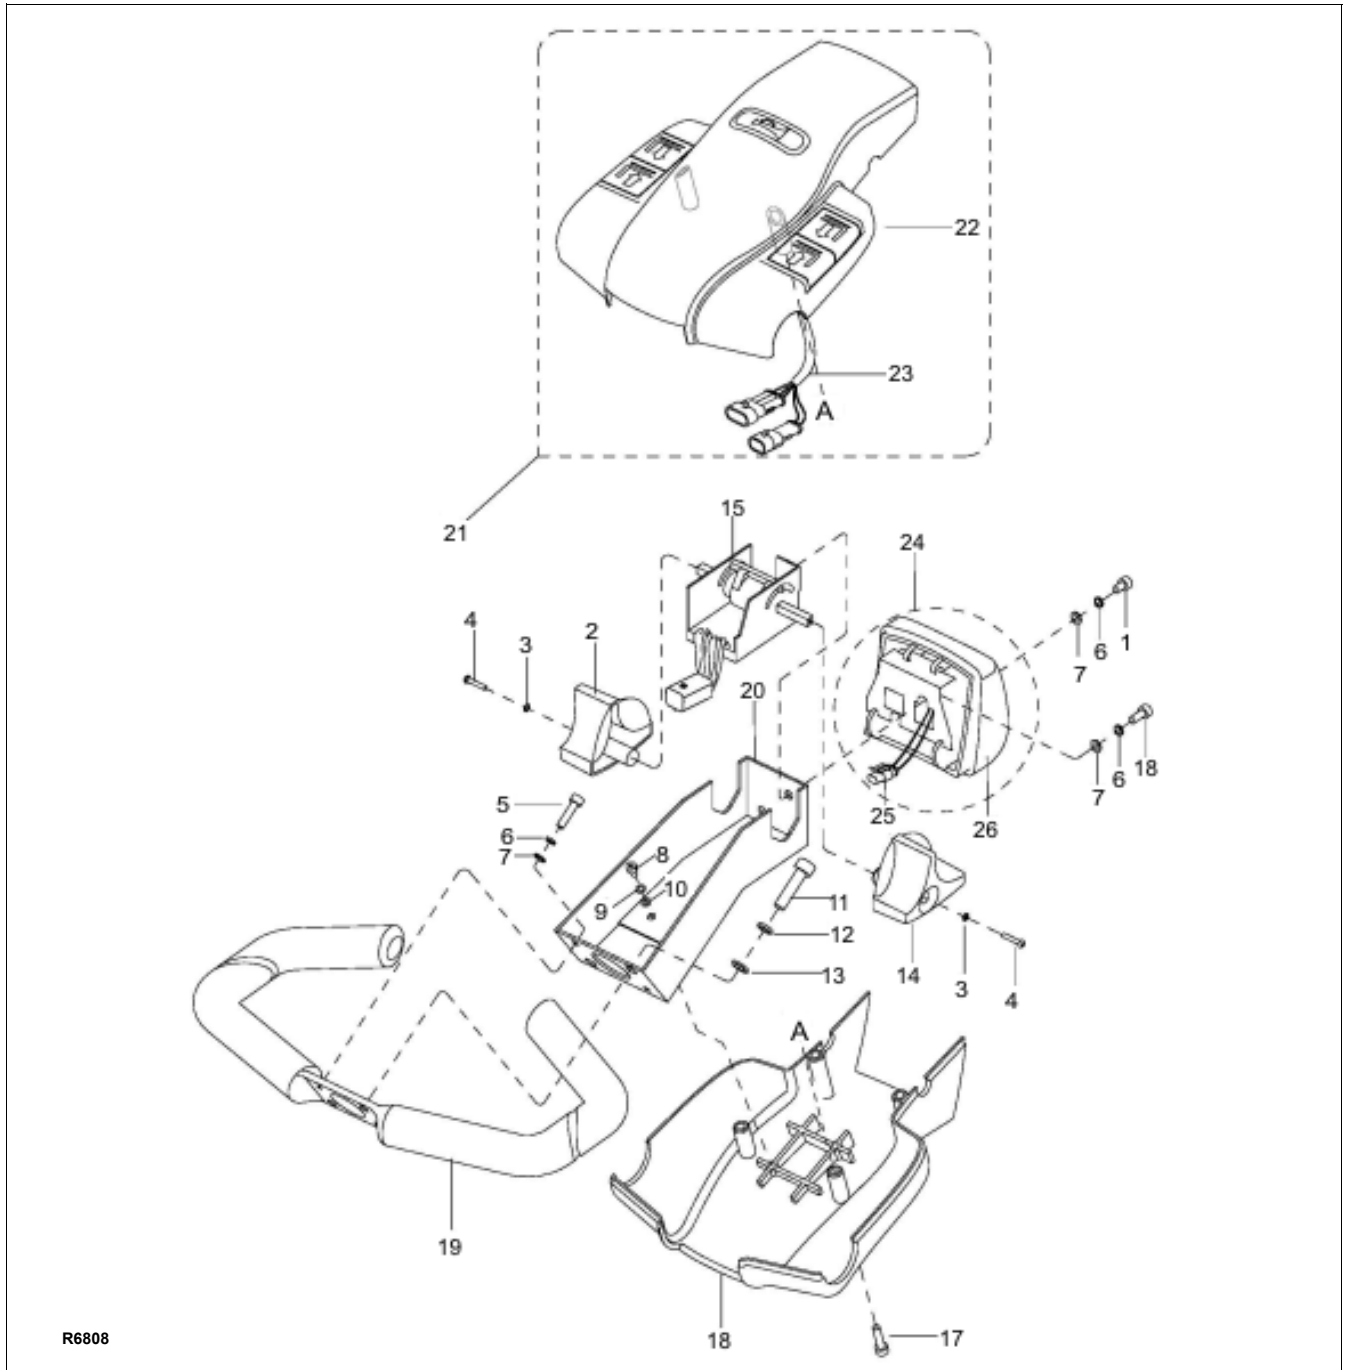
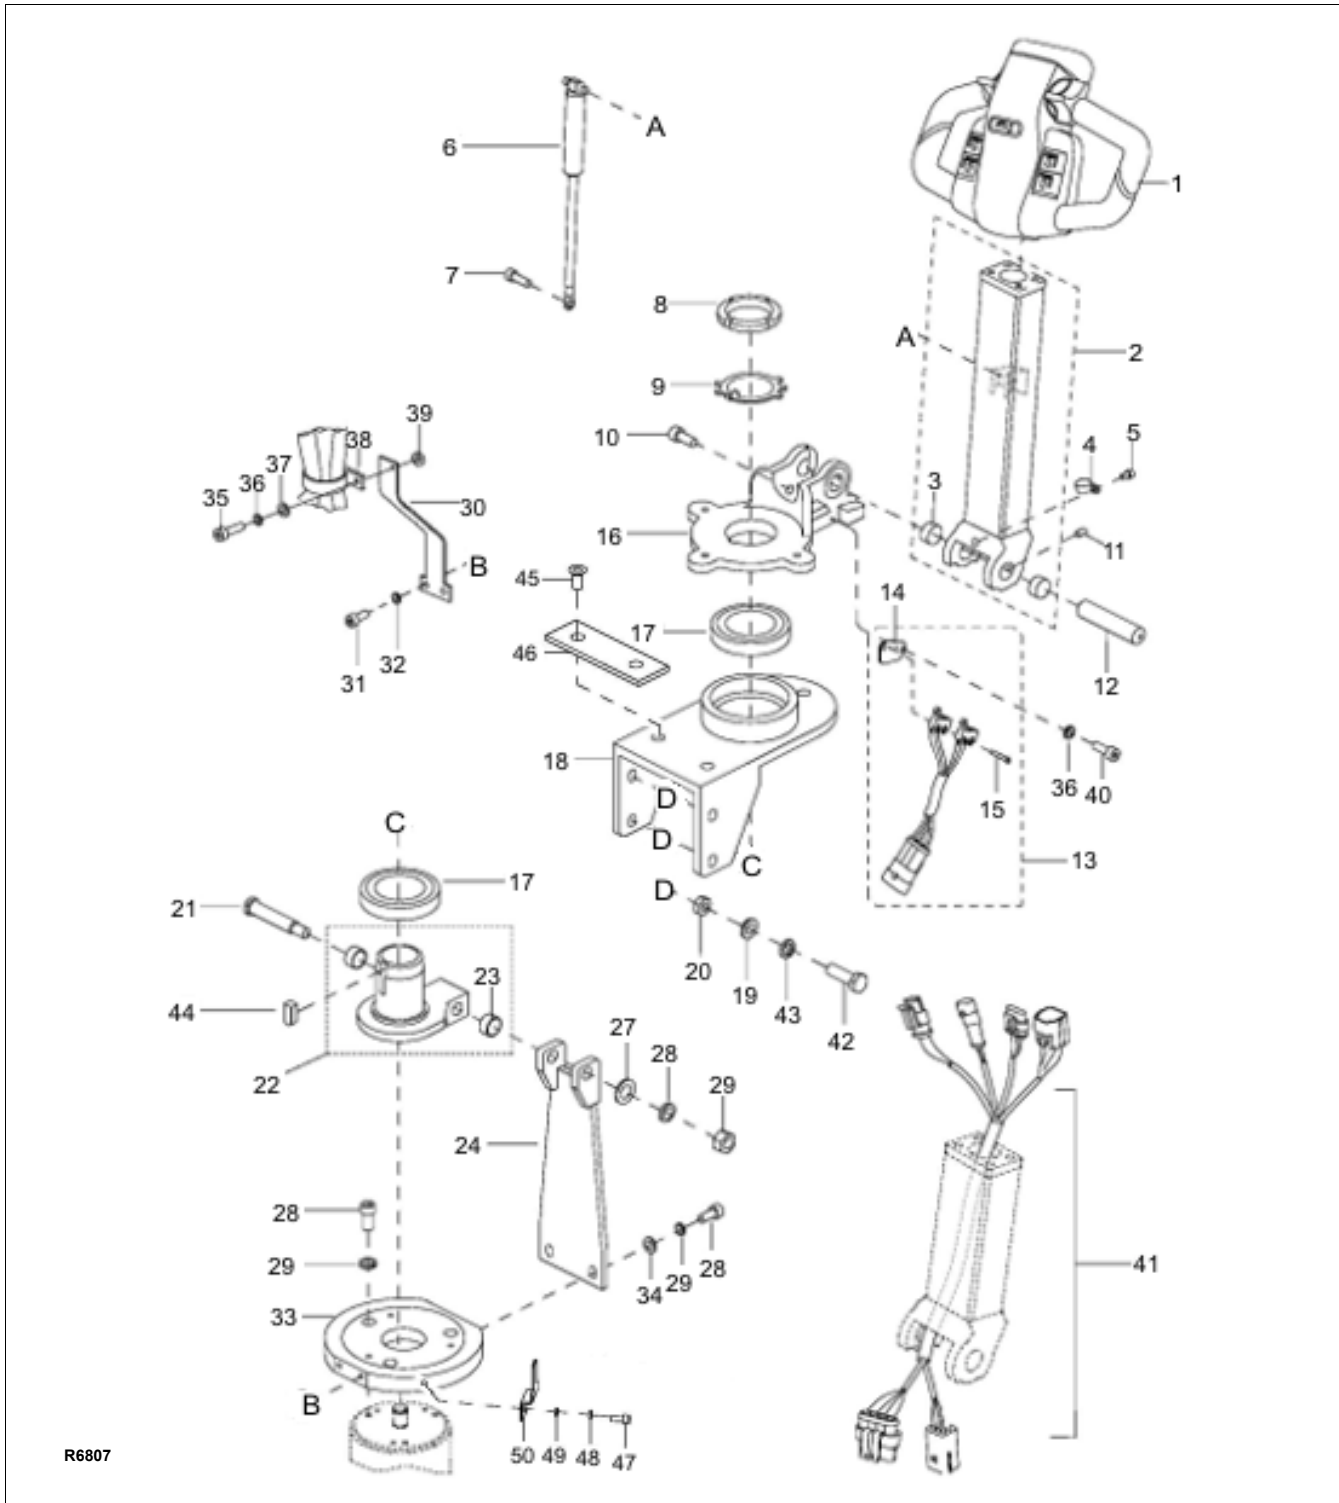
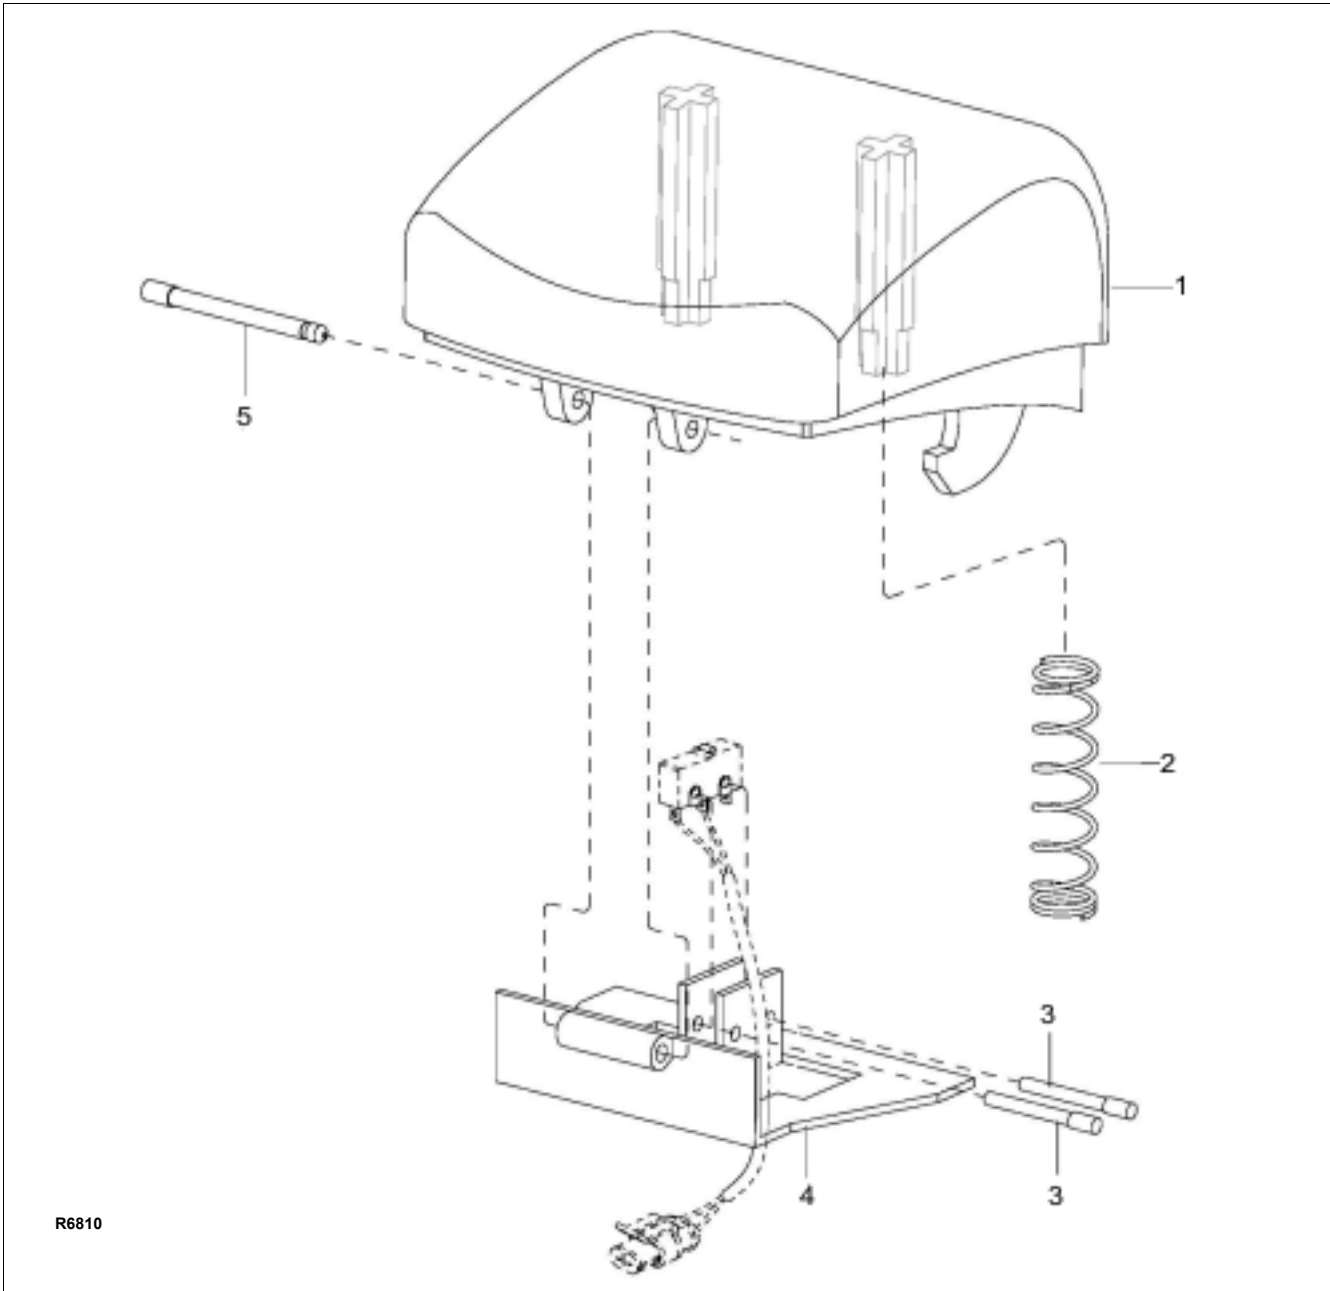

Figure 5-1 Control Head
Figure 5-2 Steering Arm
Figure 5-3 Emergency Reverse Switch Assembly
2. Remove four screws (17, Figure 5-1), lift up cap assembly (21) and disconnect harness (23) from harness (41, Figure 5-2).
1. Hold cap assembly (21, Figure 5-1) in place and connect harness (23) to harness (41, Figure 5-2).
2. Position cap assembly (21, Figure 5-1) on control head and secure with four screws (17).
2. Disconnect harness (41, Figure 5-2) from potentiometer (16, Figure 5-1) and reversing switch (25).
3. Remove two screws (11), two lock washers (12) and two flat washers (13).
1. Hold control head and handle (19, Figure 5-1) in place and install two screws (5), two washers (6) and two flat washers (7).
2. Install two screws (11), two lock washers (12) and two flat washers (13).
3. Reconnect harness (41, Figure 5-2) to potentiometer (16, Figure 5-1) and reversing switch (25).
2. Disconnect harness (41, Figure 5-2) from potentiometer (15, Figure 5-1).
3. Remove screw (4), washer (3) and control knob (2) from potentiometer (15).
4. Remove screw (4), washer (3) and control knob (14) from other side of potentiometer (15).
5. Remove screw (1), lock washer (6) and flat washer (7).
6. Remove screw (16), lock washer (6) and flat washer (7) and remove potentiometer (15) from bracket (20).
7. Position new potentiometer (15) in bracket (20) and secure with screw (16), lock washer (6) and flat washer (7).
8. Install screw (1), lock washer (6) and flat washer (7).
9. Install control knob (14) on potentiometer (15) and secure with screw (4), and washer (3).
10. Install control knob (2) on the other side of potentiometer (15) and secure with screw (4), and washer (3).
11. Connect harness (41, Figure 5-2) to potentiometer (15, Figure 5-1).
2. Disconnect harness (41, Figure 5-2) from reversing switch (25, Figure 5-1).
3. Remove screw (1), lock washer (6) and flat washer (7).
4. Remove screw (16), lock washer (6) and flat washer (7) and remove switch assembly (24) from bracket (20).
5. Remove pin (5, Figure 5-3), bracket (4), and spring (2) from button (1).
6. Remove two pins (3) and switch assembly (25, Figure 5-1) from bracket (4, Figure 5-3).
7. Position the new switch assembly (25, Figure 5-1) in bracket (4, Figure 5-3) and secure with two pins (3).
8. Position bracket (4) in button (1) and install pin (5).
9. Position switch assembly (24, Figure 5-1) on bracket (10) and secure with two screws (13).
10. Reconnect harness (41, Figure 5-2) to reversing switch (25, Figure 5-1).
The steering arm gas return spring (6, Figure 5-2) is replaced while the steering arm (2) is in the upright position.
2. Disconnect harness (41, Figure 5-2) from harness (1, Figure 12-27).
3. Attach a hoist to steering arm (2, Figure 5-2).